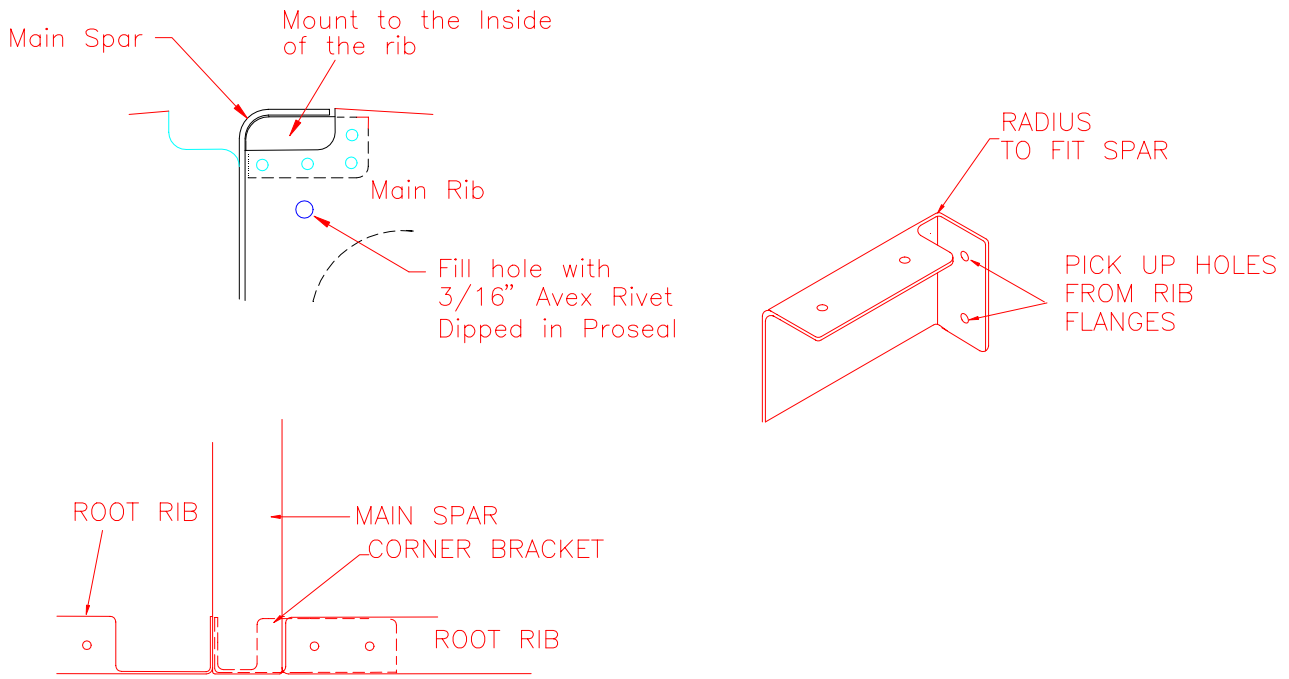

Figure 8.22.2
3) At the top and bottom cutaways in the Root Rib for the Main Spar close the opening with a Corner Bracket made from .032. Figure 8.22.2.